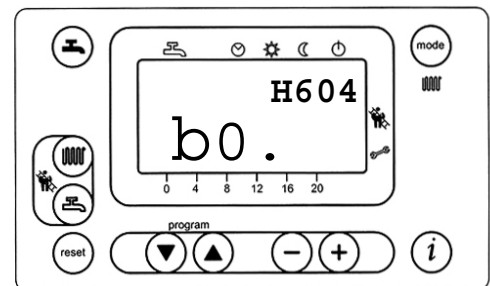

Figure 6
- a) press the ▼▲ keys on the boiler front panel (fig. 6) simultaneously for about 3 seconds, until parameter H90 appears on the display;